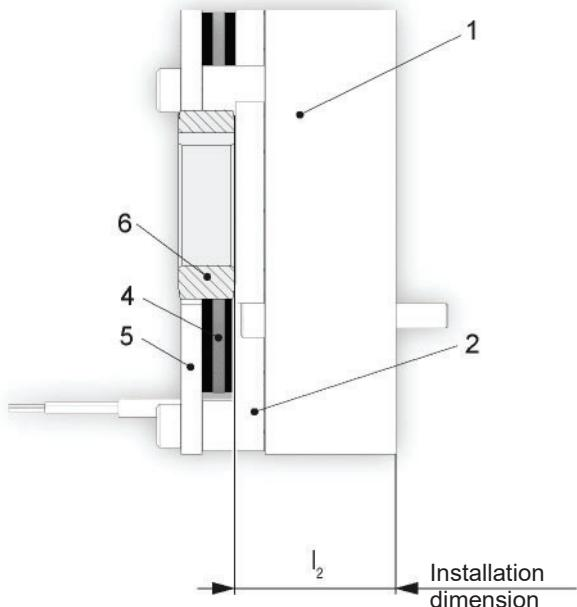

Fig. 3
- Check installation dimension l_2 as per Chapter **5.2.5** and Figure 3.
4. Mount the hub (6) onto the shaft with inserted key, bring it into the correct position as per installation dimension l_2 in Chapter 5.2.5 (Figure 3) and secure it axially.